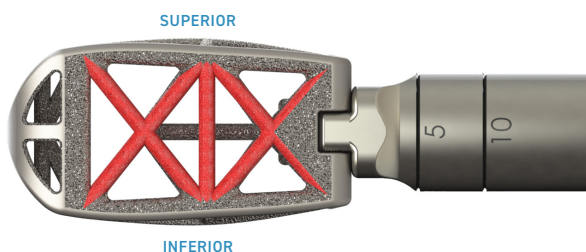

Figure 12
- ▲ If an “insert-and-rotate” insertion technique is preferred, a PSTS-000015 inserter is required. To employ this technique, the surgeon first inserts the implant with the lateral aspects of the PSTS cage in the cranial-caudal orientation. The lateral aspects of the cage can be differentiated from the superior and inferior faces of the cage by looking at the truss structure (Fig. 12 & 13). Once the proper position of the cage in the disc space is confirmed under fluoroscopy, the implant can then be rotated 90° so that the superior and inferior faces of the implant are in the cranial/caudal direction. The implant inserter can then be disengaged from the implant. If the implant needs to be positioned further into the prepared space, gently tap the implant with the tamp provided in the instrument tray.